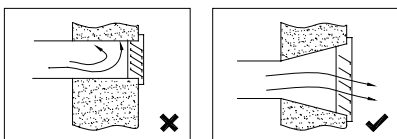

Figure 4 Shape of the air opening
- (3) The duct wall should be smooth, dustless and pucker-free.
- (4) Resistance to the air vents of the room should be kept as less as possible. It is suggested to install indoor rectangular aluminum alloy diffusers or dual-layer grilles (no less than 200×200mm in size). If a water-proof grille is used for outdoor air vents, its size should be 3 to 4 times the sectional area of a connected duct, and the blade shape of the grille should facilitate the air flow. See figure 4 to select diffusers and grilles.